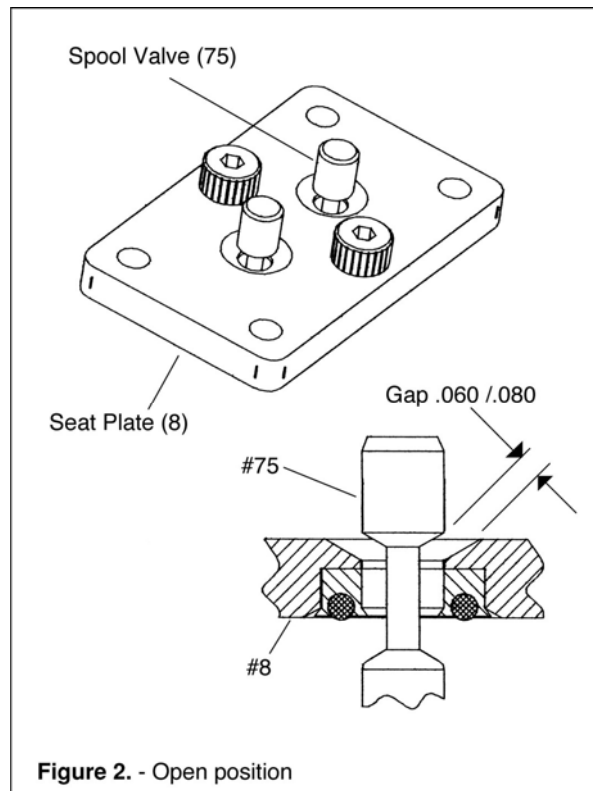

Figure 2. - Open position
1. Check the open and close movement of the spool valves (75).
2. Check gap between seat plate (8) and spool valve (75). Refer to Figure 2 when spool valves are in open position.
3. Check front lip seals by pressurizing the valve body (7) and applying soapy water into the front seals. The valve body can be pressurized by connecting air into the A and B inlet ports on the valve body.
4. Seat Plate (8)